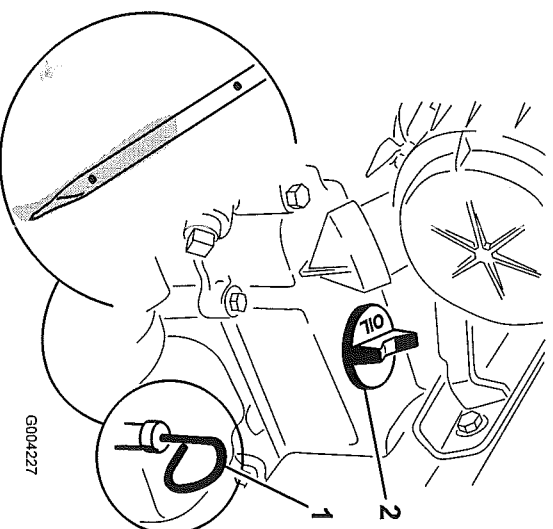

Figure 17
4. Clean around the oil dipstick (Figure 17).
5. Pull out the dipstick and wipe the metal end clean (Figure 17).
6. Slide the dipstick fully into the dipstick tube (Figure 17).
8. If the oil level is low (below the bottom hole), clean around the oil filler cap and remove the cap (Figure 17).